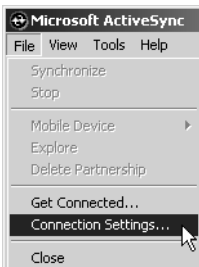

Figure 2-14. File->Connection Settings
2. Click **File->Connection Settings** (Figure 2-14).